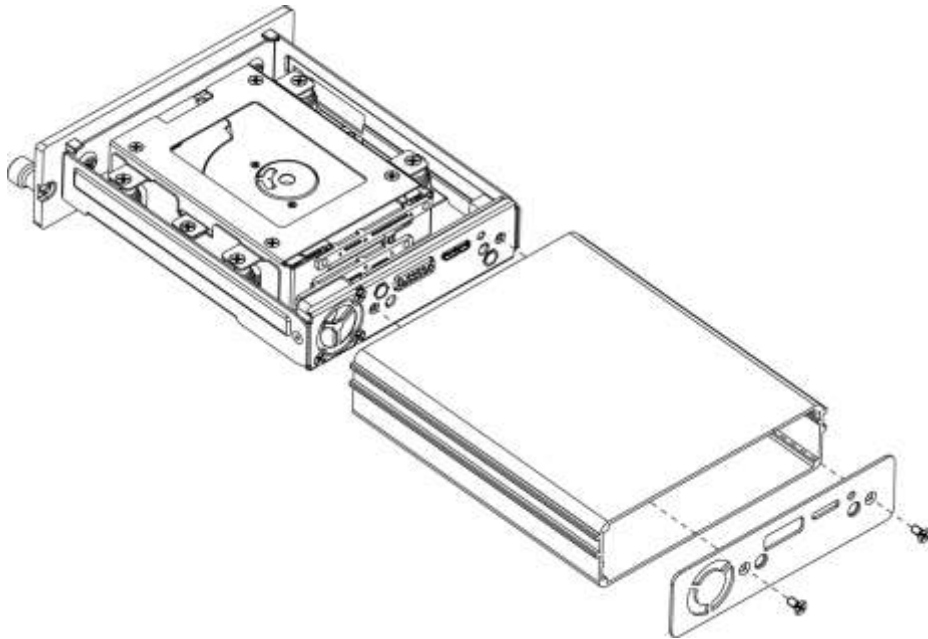

Figure 3-6
Step 5 Install the HDD box cover along the guide trail and then use two screws to secure the HDD box. See Figure 3-6.